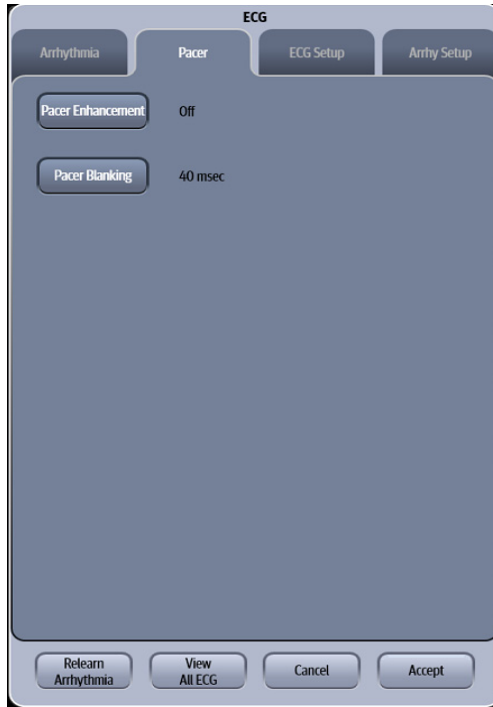

FIGURE 9-3 Example ECG Dialog (Pacer Tab)
2. Select the **Pacer** tab (as shown in FIGURE 9-3).